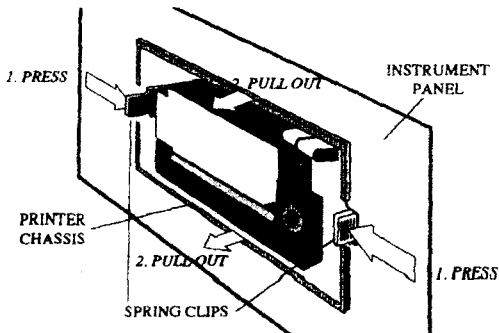

Fig. 2-7. Remove Printer
3. Remove TP μ P-A from instrument panel (Figure 2-7).